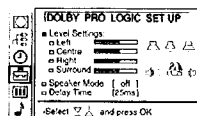

Fig. 32
- 1 Press MENU, select the symbol  on the screen for »Preset« and press OK. Then select »Installation« and »Dolby Pro Logic Set Up« using Δ or ∇ and press OK. The DOLBY PRO LOGIC SET UP menu appears. (See Fig. 32)